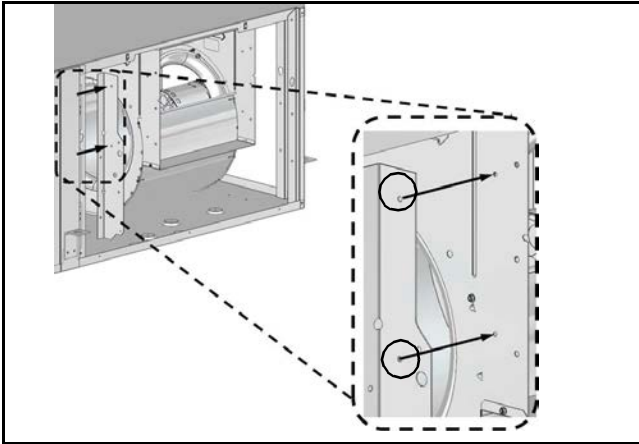

Fig. 20
11. Reinstall the bracket in its new vertical position using two screws. (See Fig. 20.)